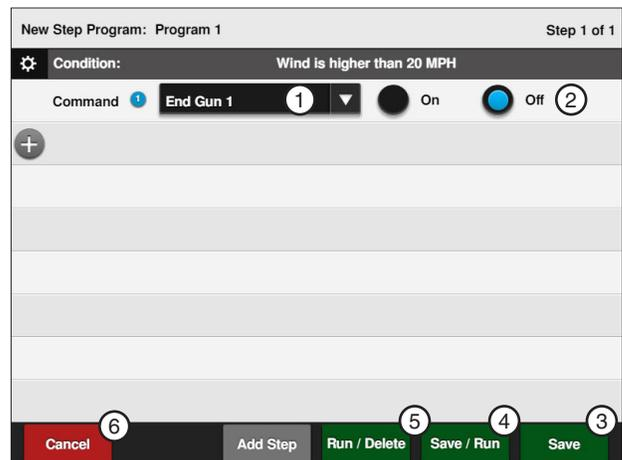

Figure 117-2 1. End Gun 1 Command 4. Save / Run
4. Enter the command to be executed when wind speed is higher than 20 mph. Refer to Figure 117-2.
5. Finish the program by selecting one of the following. Refer to Figure 117-2.